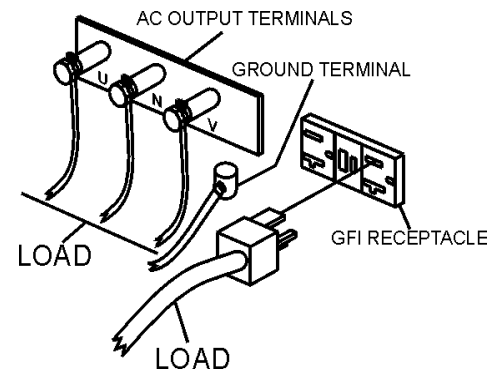

Figure 38. UVW Terminal Lugs (Load)
6. Remove the load from the UVW terminal strip (Figure 38).